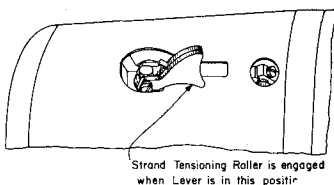

Fig. 11—Position of Lever When Roller is in Working Position (H Cable Lasher)
- (1) Open the rear cable lifter.
- (2) In placing the lasher on the strand, be sure that the strand drive wheels and the small rear trailer wheel are properly positioned on the strand.
- (3) Engage the strand tensioning roller by pressing the lever all the way down, turning it counterclockwise to the end of its travel, and allowing it to rise. This locks the lasher on the strand. When the roller is in the engaged position, the lever is parallel to the strand (Fig. 11).